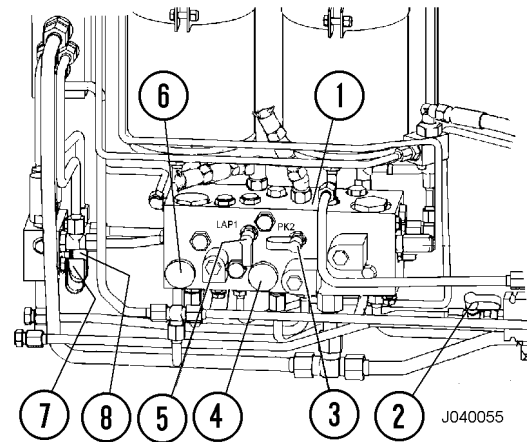

FIGURE 4-5. PRESSURE TEST PORTS
4. Refer to Figure 4-5 for pressure test diagnostic coupler locations in the hydraulic components cabinet. Install a 3000 psi (21 MPa) pressure gauge at each of the following:
- Front brake test port (2).
- Left rear brake test port (7).
- Right rear brake test port (8).
- Park brake release pressure port "PK2" (3).
- Install a 5000 psi (35 MPa) gauge in the Low accumulator pressure test port "LAP1" (5).